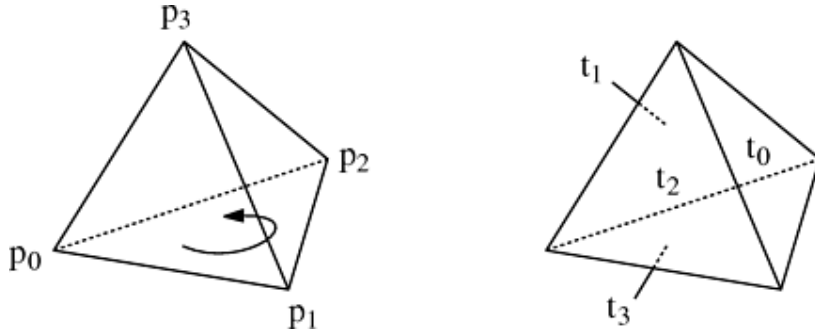

Figure 13.13: Numbering of points in a tetrahedron with positive volume (left). Numbering of the corresponding triangles (right).
- The `tetras` array describes the actual tetrahedra. For each tetrahedron, the indices of the four points and the indices of the four triangles it consists of are stored. The numbering of the points and triangles is shown in Figure 13.13. In particular, the fourth point is located above of the triangle defined by the first three points. Triangle number i is located opposite to point number i .